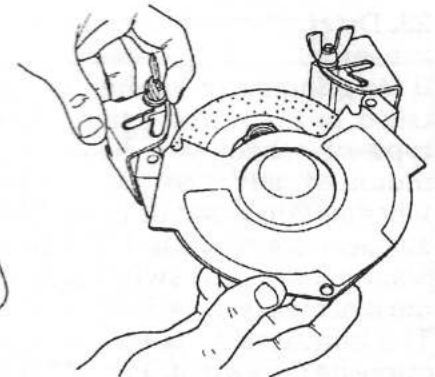

Fig. 16
**17.** Slip the guard cover (18) notches between the guard and each tool rest. See Fig. 16. Do not tighten the wing nuts yet.